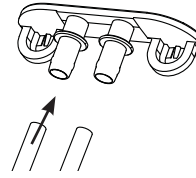

Figure 5
- Once draining is complete, reconnect both tubes to the gray plastic tube plug (Figure 5)
6. Once rinsing is complete, reconnect the drain tubes to the drain plug (Figure 5), or if you have a side tank, reconnect the unlabeled tube to the drain plug, and Tube B to the Side Tank base (Figure 4).